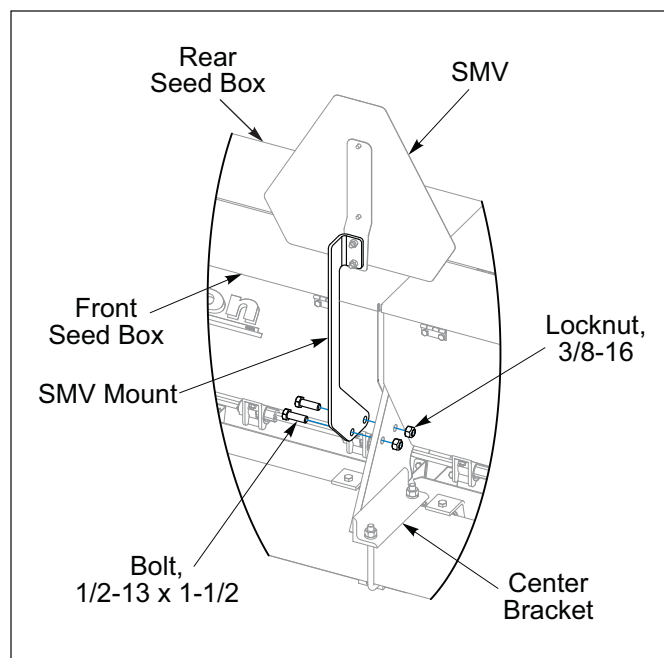

Figure 2-5: SMV Mount
5. 8FT and 10FT Seeders, install SMV Mount to Seed Box Center Bracket with 1/2-13 x 1-1/2 Bolts and Locknuts. **See Figure 2-5.**